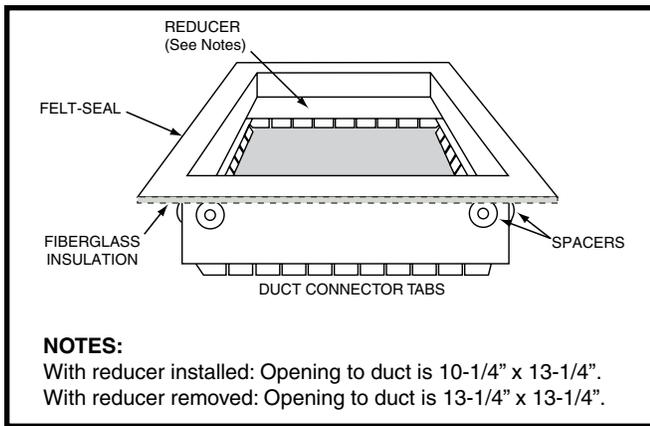

Figure 12. Duct Connector
- This furnace is certified for use on wood flooring or supports, but must not be installed directly on carpeting, tile, or any combustible material other than wood flooring. **NOTE:** The furnace may be installed on combustible flooring when installed on a Nordyne duct connector. See Figure 12 \(page 16\). This factory supplied accessory must be installed in the floor cavity and attached to the supply air duct before the downflow furnace is installed.
The *RL series gas furnace is certified for use on wood flooring or supports, but must be installed on a special duct connector (Figure 12). This factory supplied accessory must be installed in the floor cavity and attached to the supply air duct before the downflow furnace is installed.